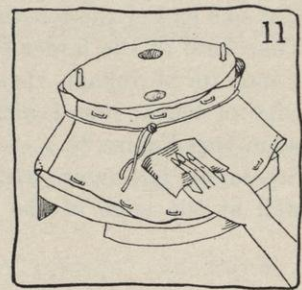

FIG. 11.
- h. Pounce the brim by rubbing with sandpaper to remove any long hairs in the fur (see Figure 11). Be careful not to rub holes in the felt.